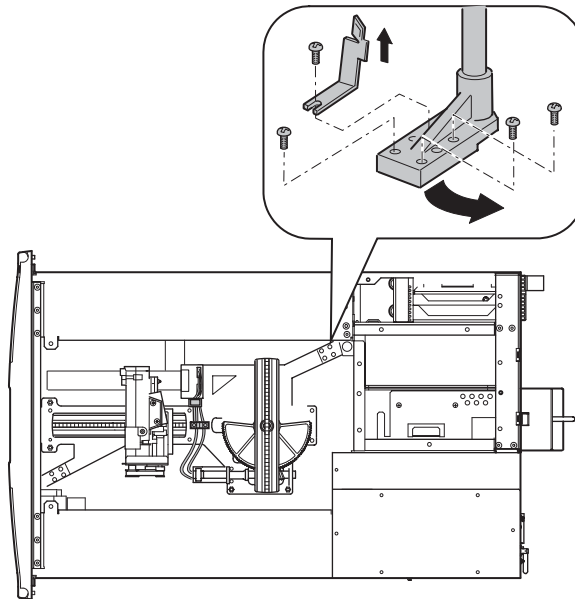

Figure 3-55: Rear vertical axis screws removed
5. Swing the rear vertical axis screw rail foot clockwise and then align it over the robot track base and alignment pins (see Figure 3-55).
7. Replace the screw rail bracket (see Figure 3-55).
8. Replace (finger tighten and loosen one turn) the four screws that secure the rear vertical axis screw rail to the robotics base (see Figure 3-55).